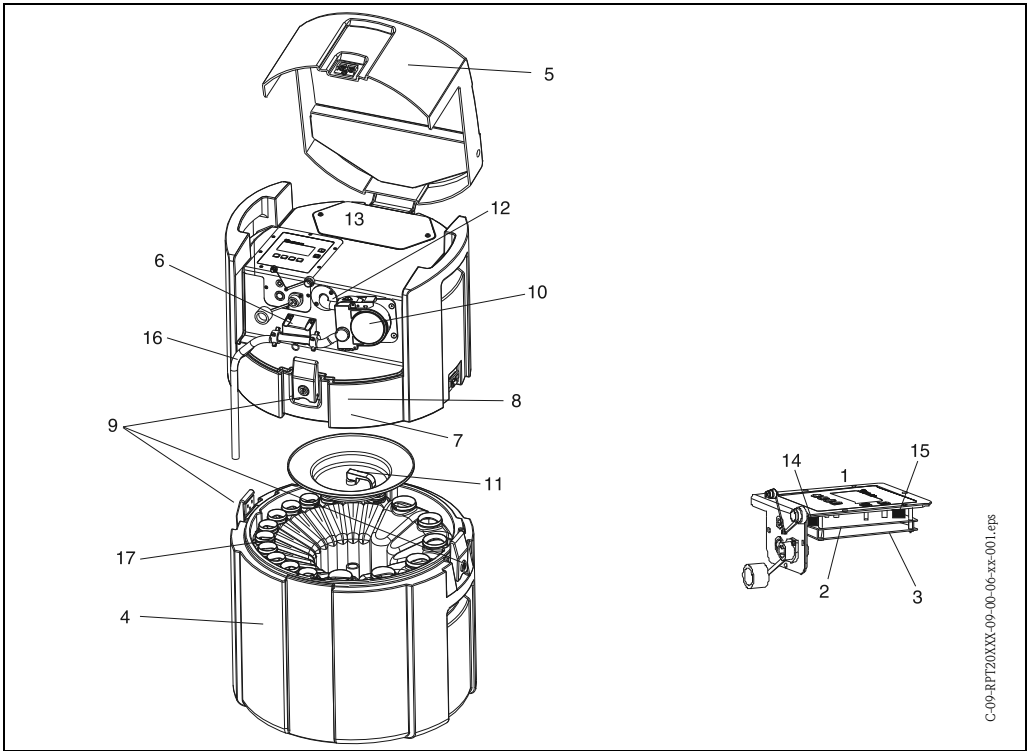

Fig. 46: Spare parts (position numbers are explained in the spare parts list)
| | A | Controller complete (=> Fig. 46, pos. 1) | |
| | B | CPU incl. display up to no. 520013040B3 (=> Fig. 46, pos. 2) | |
| G | CPU incl. display (=> Fig. 46, Pos. 2) from No. 520014040B3 | | |